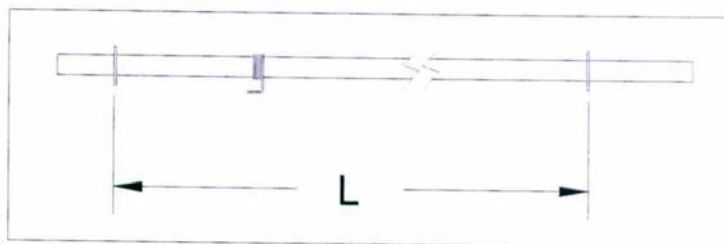

Figure 1 Measuring Tube Length
- ① Measure L , the length of the copper tube at room temperature. Measure from the outer edge of the stainless steel ring on one end, to the outer edge of the stainless steel ring at the other end (see Figure 1). Record your results in Table 1.